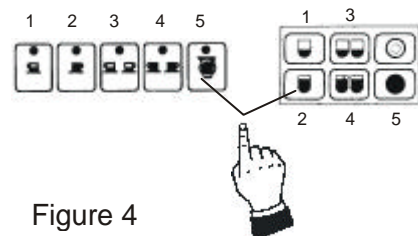

Figure 4
**AUTOMATIC ELECTRONIC MODEL (Fig 4)**